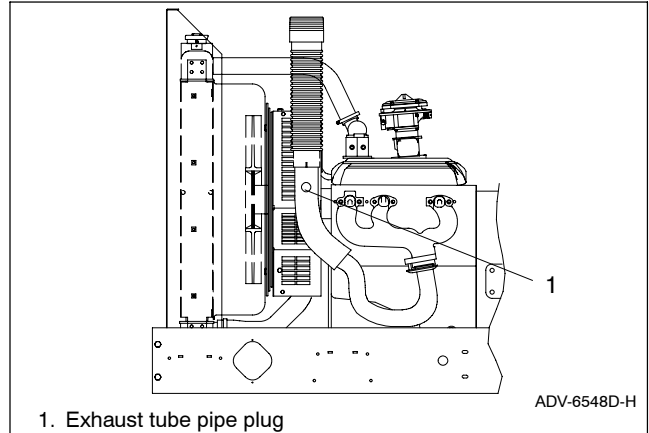

Figure 7-40 Oxygen Sensor Mounting Location, Typical (30 kW model shown)
- a. Remove the oxygen sensor pipe plug from the exhaust pipe. See Figure 7-40 for location.